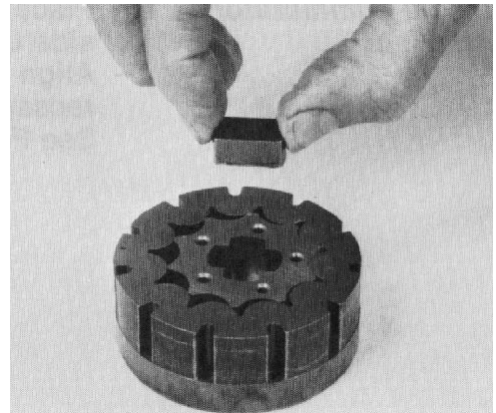

Figure 74
12. Apply a small amount of clean multi-purpose grease to the spacer and insert it into the drive slot in the rotor (Fig. 74). The grease will aid in retaining the spacer during other assembly procedures.